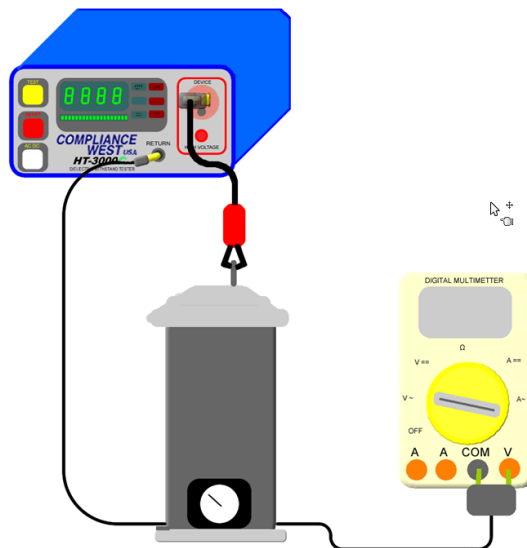

Figure 8. Voltage Measurement with 1000:1 High Voltage Probe
4. Set up a 1000:1 probe with the volt meter as is shown on Figure 8, or hook up the positive probe terminal to the High voltage test jack on units that have it.
2. Set up a 1000:1 probe with the volt meter has is shown on Figure 8, or hook up the positive probe terminal to the High voltage test jack on units that have it.